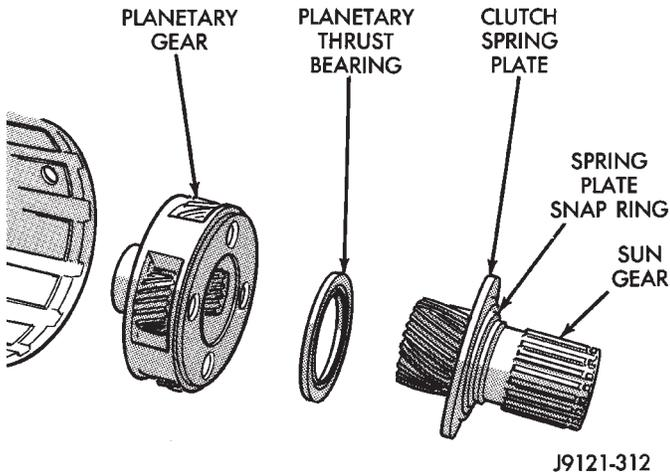

Fig. 227 Removing Sun Gear, Thrust Bearing And Planetary Gear
- (2) Remove sun gear and spring plate. Then remove planetary thrust bearing and planetary gear (Fig. 227).